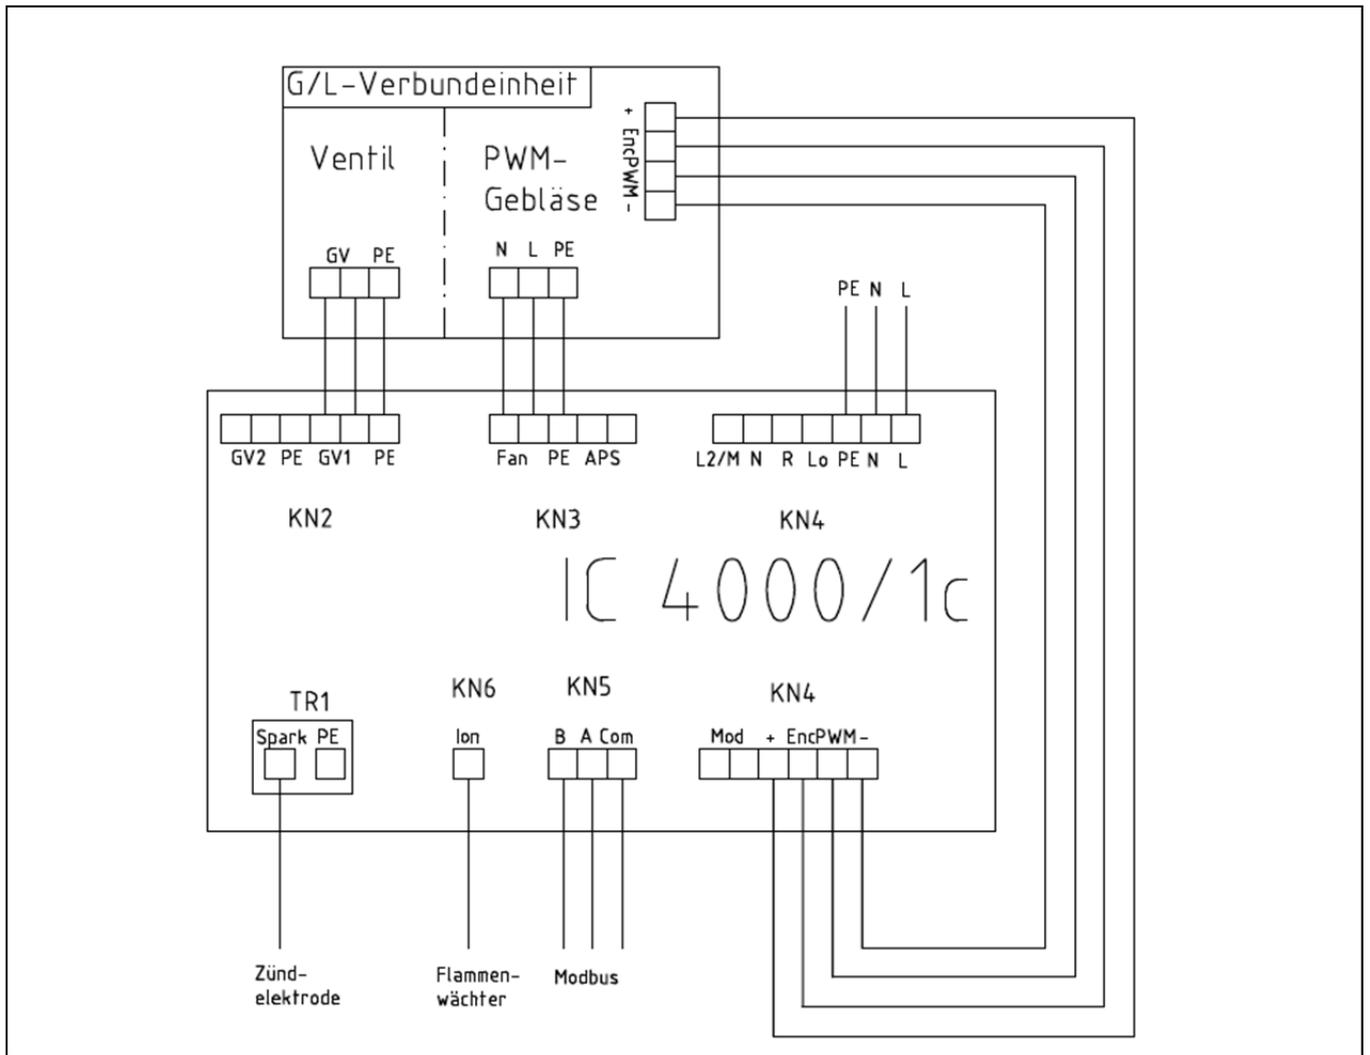

Fig 36: Internal wiring diagram bluTek-burner kit deltaschwank
- ⇒ Route a flexible 3-wire MODBUS cable [max 3x 0.5 mm2] for the Modbus connection into the free cable gland of the burner control unit IC 4000/1 and connect it according to the connection diagram [Fig 36].